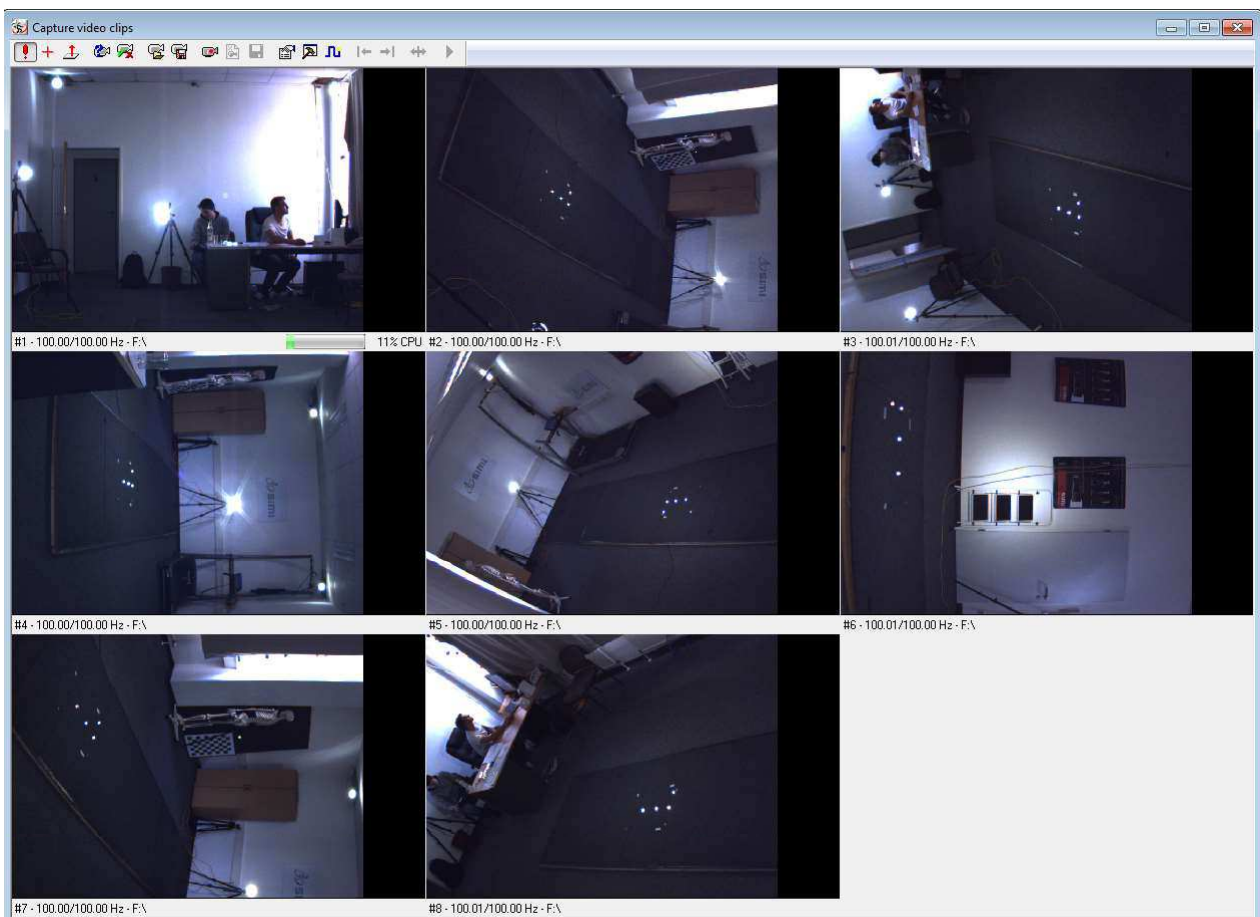

Figure 17.4: Recognition of 8 Cameras in Simi Motion
1. Click in **Simi Motion®**. Now you should see the images of all cameras in the resulting window (cf. figure 17.4).